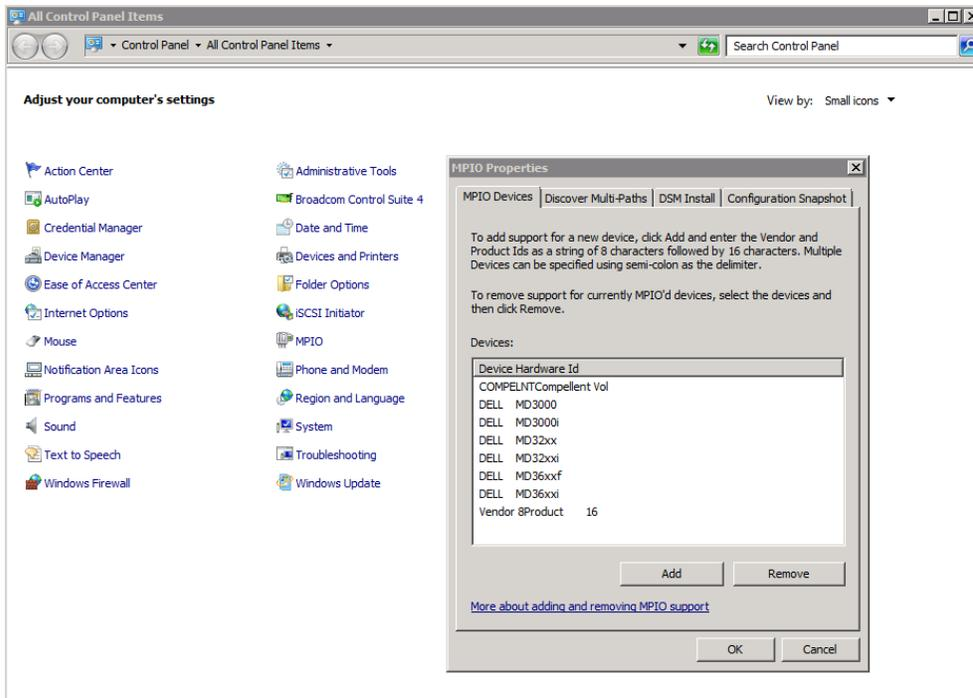

Figure 33 Installing Windows Server 2008 R2 Enterprise Multipath I/O for Compellent array
8. Navigate to **Start > Control Panel > MPIO** and click the **Add** button. When prompted for a **Device Hardware ID**, input **COMPELNTCompellent Vol** and click the **OK** button. The system will need to be restarted for the changes to take effect. Figure 33 displays the **COMPELNTCompellent Vol** text that you should see on the **MPIO Devices** tab in **MPIO Properties** once the system is brought back up.